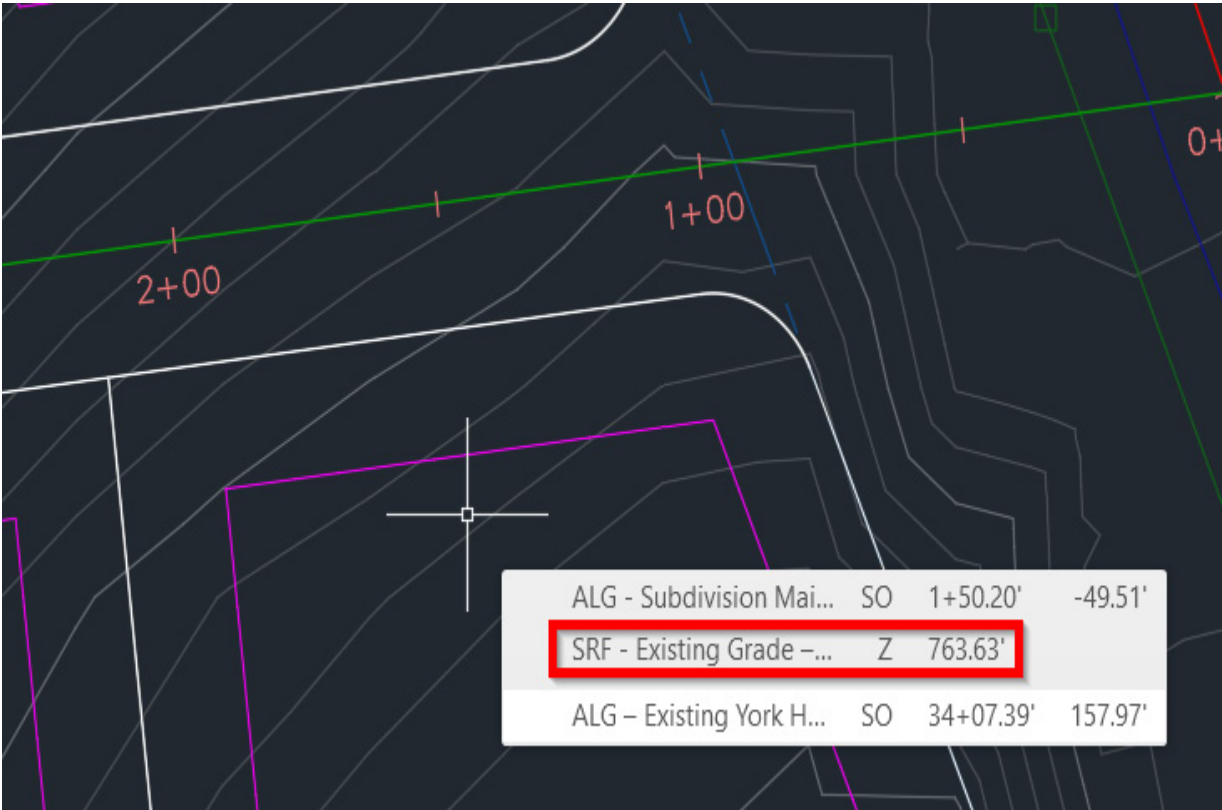

Figure 9.31 - Identifying the approximate elevation on the roadside of the setbacks
To identify the approximate elevation, we'll simply hover our mouse over a decent location for a second or so, at which point Civil 3D object references will list out next to our cursor, one of which will reference our **SRF - Existing Grade - FromSurveyPoints** surface model, along with the elevation that our cursor is hovering over (refer to *Figure 9.31* for an example of what this may look like):
10. We'll then be asked to specify the target elevation. If we refer back to *Figure 9.31*, we'll notice that the approximate elevation we would like to target on the street side of the parcel is listed as **763.63**. Let's type this value at the command line and hit *Enter*.